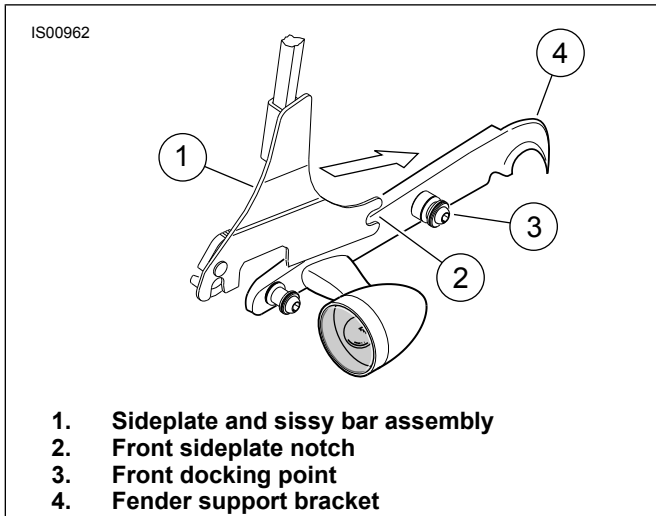
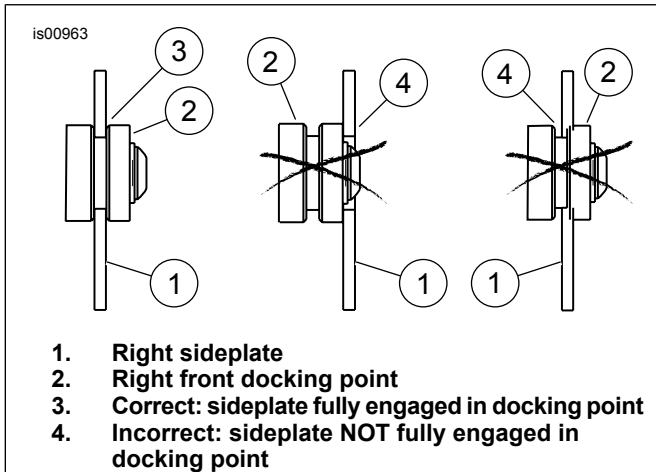
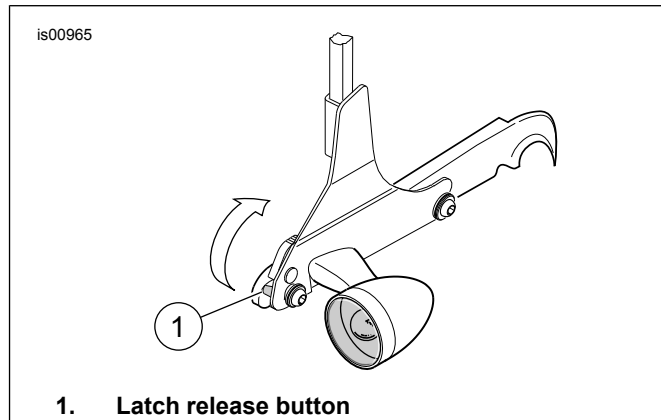

Figure 2. Place Sideplate Front Notches into Front Docking Points
Figure 3. Sideplate Must Fit into Docking Point Correctly
Figure 5. Close Latches
- See Figure 2. While standing behind the motorcycle, place the front sideplate notches (2) into the front docking points (3) as shown. See Figure 3 for views of correct and incorrect sideplate engagement.
Check alignment as shown in Figure 3. Failure to properly align the docking points and sideplates may result in damage to the rear docking points.
3. See Figure 5. Push down on the sideplates and close the latches by pressing the latch lever as far forward as it will go, as shown. You will hear a click when the latch has seated properly. **If the latch does not easily close, do not force it.** Re-check the alignment as described in Step 2 and Figure 3.
See Figure 5. To remove the sideplates, press the release button (1) and pull the rotary latch lever back. Carefully lift the rear of the sideplates up and pull the sideplates out of the front docking points.